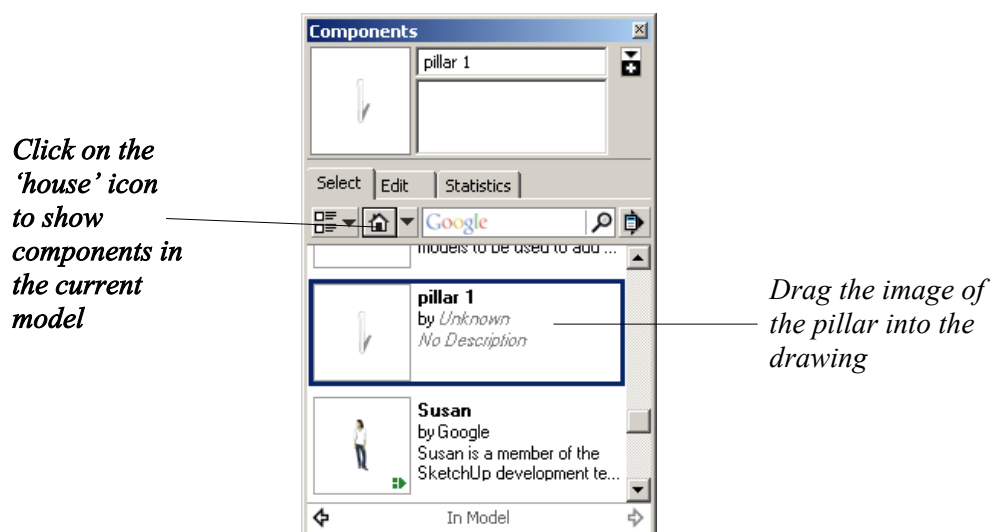

Figure 35. The Components dialogue box.
- Use **WINDOW/Components** and the Components dialogue box will appear as shown in Figure 35.